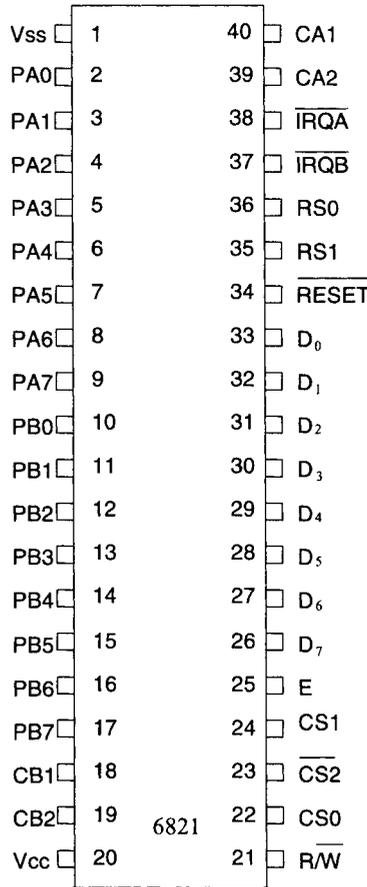

FIGURE 10.17 6821 pin diagram
The Motorola 6821 is a 40-pin peripheral interface adapter (PIA) chip. It is provided with an 8-bit bidirectional data bus (D₀-D₇), two register select lines (RS0, RS1), read/write (R/W) and reset (RESET) lines, an enable line (E), two 8-bit I/O ports (PA0-PA7), and (PB0-PB7), and other pins. Figure 10.17 shows the pin diagram of the 6821. There are six 6821 registers. These include two 8-bit ports (ports A and B), two data direction registers, and two control registers. Selection of these registers is controlled by the RS0 and RS1 inputs together with bit 2 of the control register. Table 10.15 shows how the registers are selected. In Table 10.15, bit 2 in each control register (CRA-2 and CRB-2) determines selection of either an I/O port or the corresponding data direction register when the proper register select signals are applied to RS0 and RS1. A 1 in bit 2 in CRA or CRB allows access of I/O ports; a 0 in bit 2 of CRA or CRB selects the data direction registers.